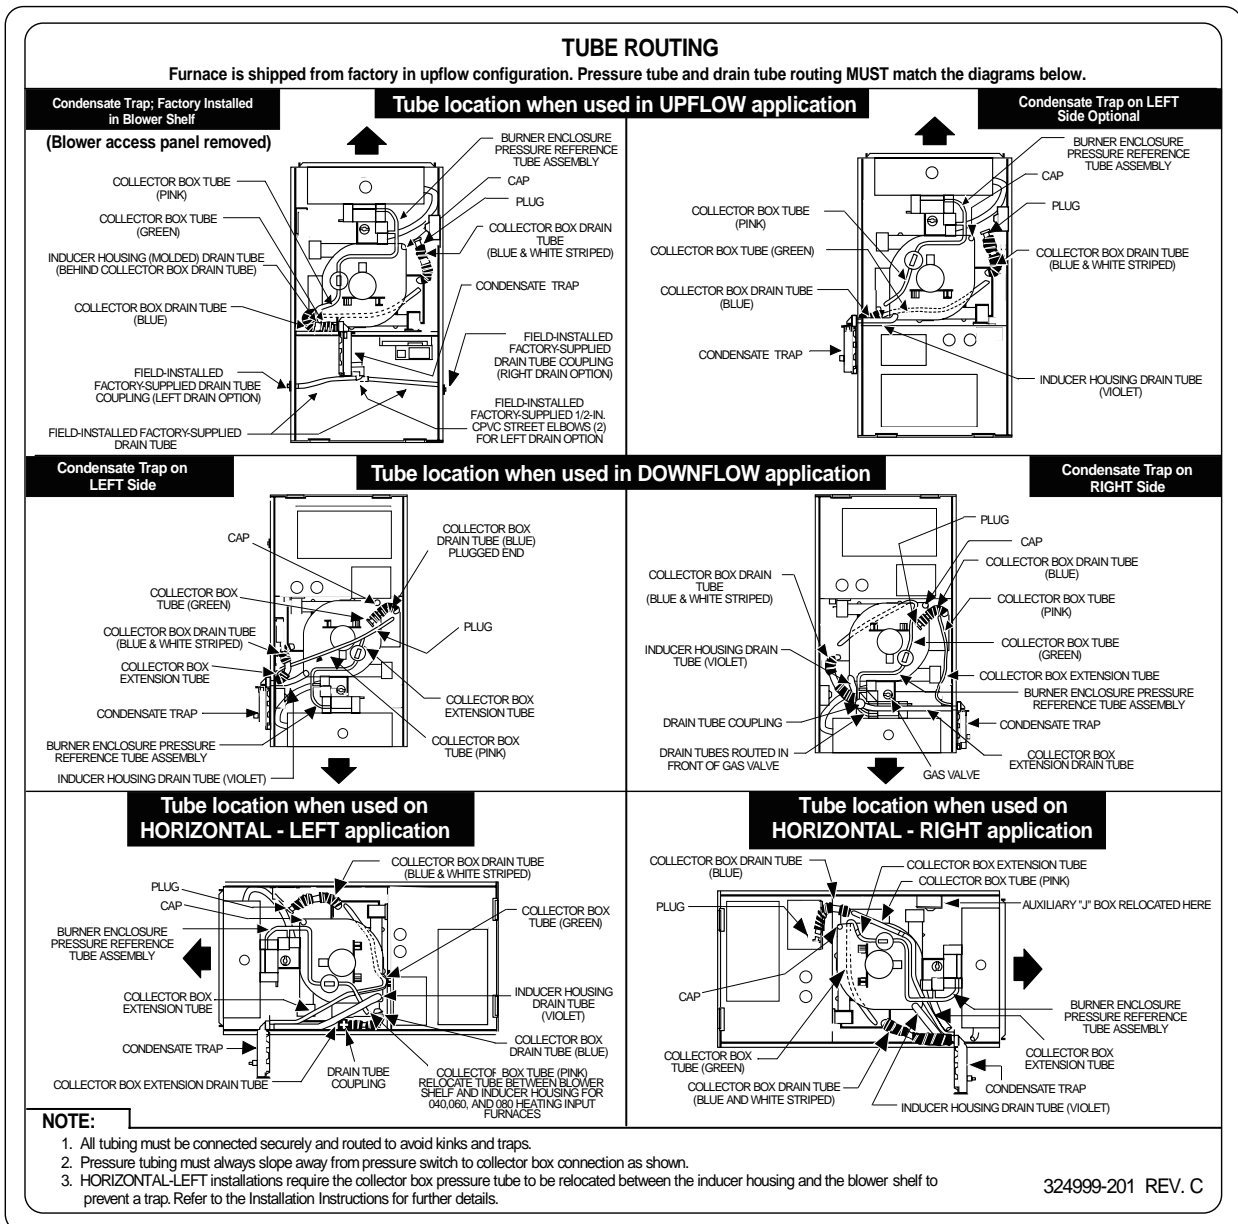

Fig. 8—Furnace Pressure and Drain Tubing Diagram
14. Reconnect pressure switch tubes to gas valve and intake housing. Refer to tube routing label on main furnace door for proper tube location. Be sure tubes are not kinked. (See Fig. 8.)
6. Disconnect drain tube from inducer housing. (See Fig. 8.)
12. Reconnect pressure tubes to pressure switches. See diagram on main furnace door for proper location of tubes. Be sure tubes are not kinked. (See Fig. 8.)